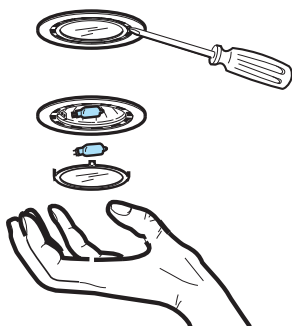

Fig. 6
- Remove the lamp cover carefully, use a screw driver as a lever. **Fig. 6.**